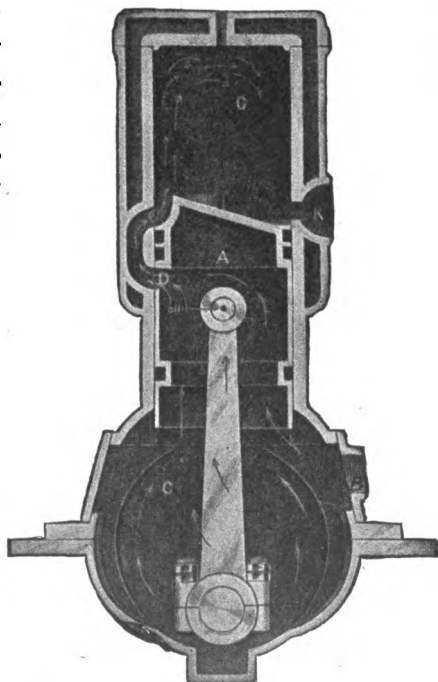

Fig. 41. Stationary Engine with Single Valve
**Two-Cycle Type.** A modification of the type of explosion motor shown in Figs. 8 and 9, which makes its construction even more simple, is the use of a single valve—an automatic valve which admits the charge to the crank case. In this engine, Fig. 41, the series of operations is precisely similar to that described for Fig. 8, the only difference being in the by-pass connection *E*, which has no valve between it and the cylinder. The exhaust is made to open a little earlier than the admission, so as to make sure that the pressure in the cylinder